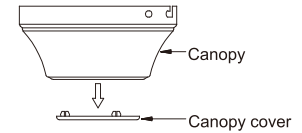

Fig. 8A
Step 2. Remove the decorative canopy cover from the canopy by pushing out (**Fig. 8A**).